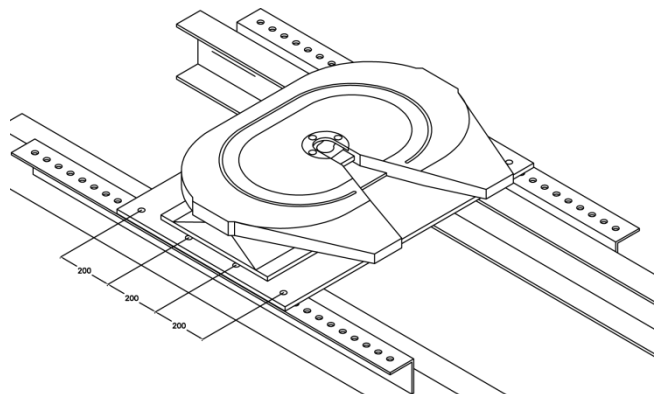

Figure 18: Typical fixed fifth wheel bolt spacing
- Ensure the bolt spacing between the base plate to the fifth wheel angles (see Figures 18 and 19) is within the range: